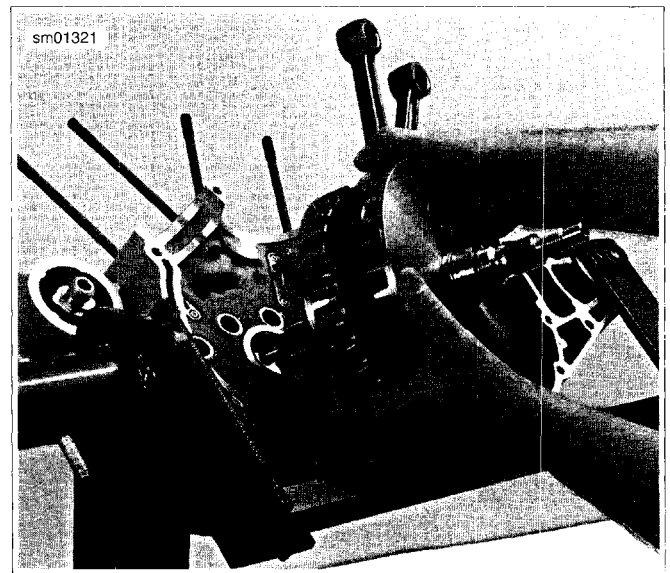

Figure 5-100. Installing Flywheel Assembly In Right Crankcase
2. See Figure 5-100. Install flywheel assembly into right crankcase half.